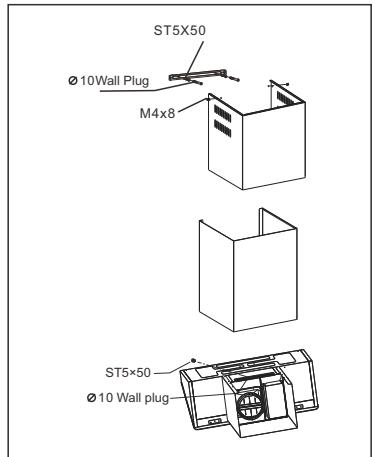

Fig.5
Note: Adjust the hood body alignment if necessary (Fig.5).
- Fix the inner duct to mounting bracket using 2 (two) M4 \times 8 screws provided (Fig.5).
- Fix the outer duct to mounting bracket using 2 (two) M4 \times 8 screws provided (Fig.5).
- Fix the outer duct to the hood body using 2 (two) M4 \times 8 crews provided (Fig.5) ESlide the outer duct downwards and ensure that it is well seated on the hood body.